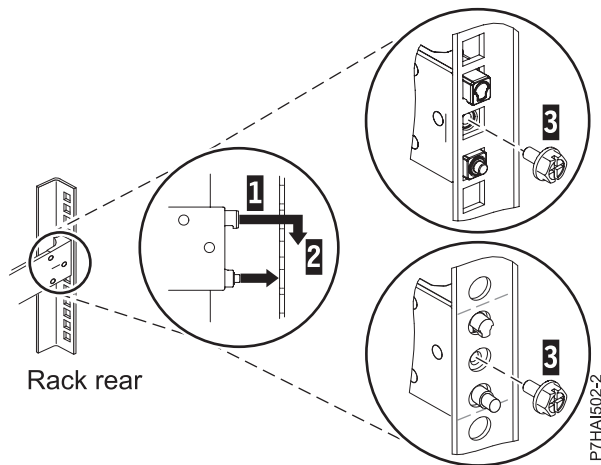

Figure 5. Aligning and engaging the pins into the holes in the rear of the rack
6. Move to the rear of the rack. Work with the left rail. Align the two pins located on the rear of the slide rail with the top and bottom holes within the selected EIA unit that were previously marked. Pull the slide rail toward you to insert the two pins into the rack holes (1), and lower the slide rail down (2) to engage the hook feature on the top pin. Install the screw (3) to secure the slide rail to the rack. For details, see Figure 5 on page 7. Ensure that the two pins protrude through the rack holes before you proceed to the next step.